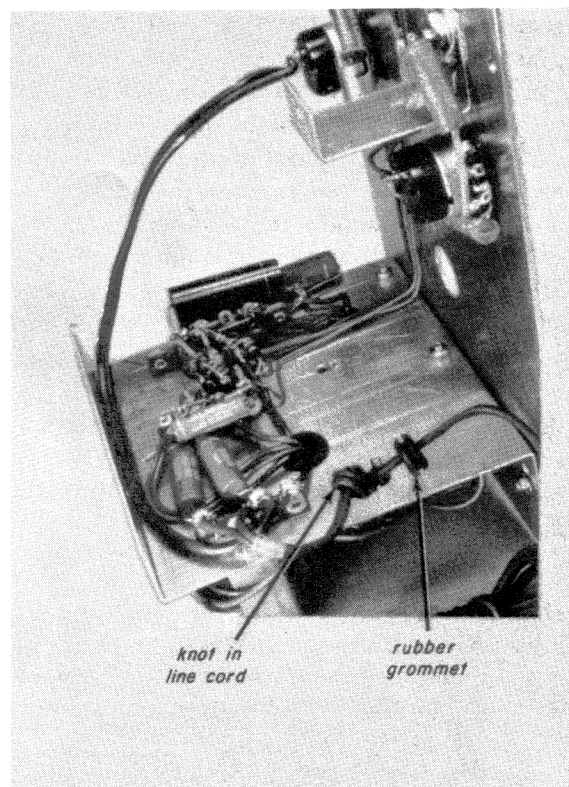

Fig. 21-14
inside corner to a point behind TS-C, as shown in Fig. 21-14. Then run the wire directly to the switch terminals on the R-F ATTEN control, as shown. Connect the wires to the terminals and solder the connection.
Step 6. Strip 1/2 inch of the insulation from the line cord wire you cut off in the last step. Place a 3/8-inch grommet on the line cord and tie a knot in the wire three inches from the end of the wire. Your line cord should look like Fig. 21-14.